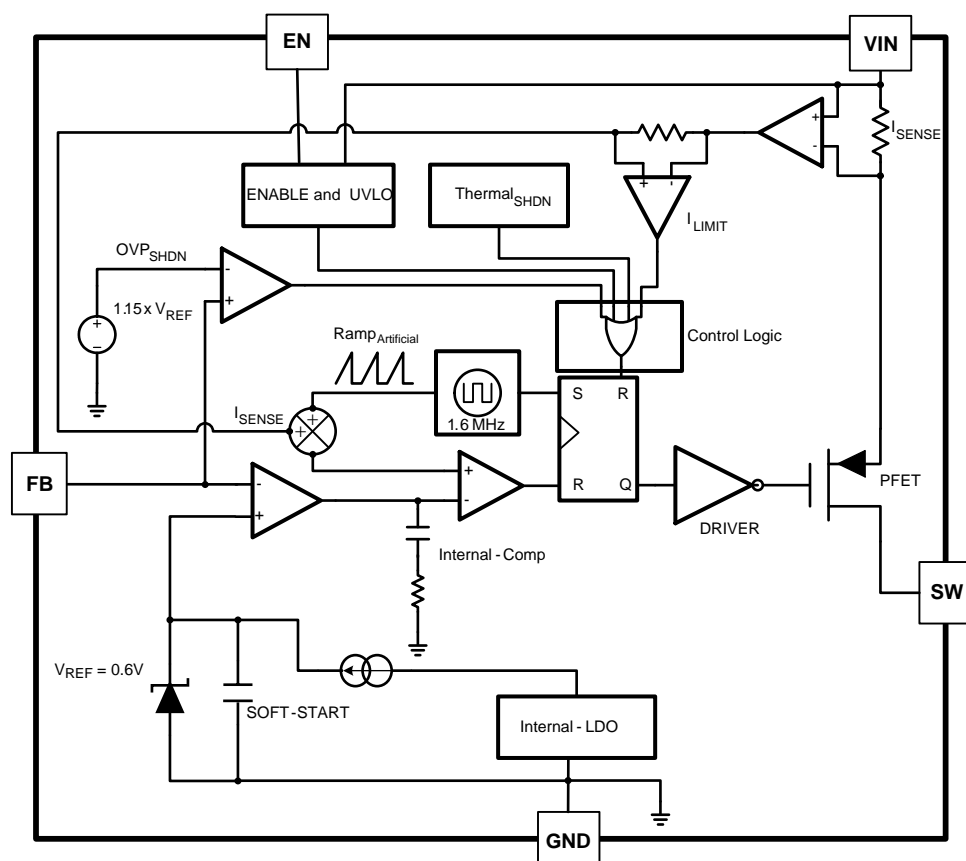
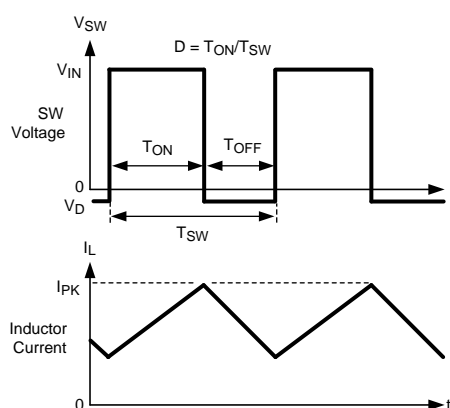

Figure 20.
Figure 21. Typical Waveforms
The following operating description of the LMR10515 will refer to the Simplified Block Diagram Figure 20 and to the waveforms in Figure 21. The LMR10515 supplies a regulated output voltage by switching the internal PMOS control switch at constant frequency and variable duty cycle. A switching cycle begins at the falling edge of the reset pulse generated by the internal oscillator. When this pulse goes low, the output control logic turns on the internal PMOS control switch. During this on-time, the SW pin voltage (V_{SW}) swings up to approximately V_{IN} , and the inductor current (I_L) increases with a linear slope. I_L is measured by the current sense amplifier, which generates an output proportional to the switch current. The sense signal is summed with the regulator's corrective ramp and compared to the error amplifier's output, which is proportional to the difference between the feedback voltage and V_{REF} . When the PWM comparator output goes high, the output switch turns off until the next switching cycle begins. During the switch off-time, inductor current discharges through the Schottky catch diode, which forces the SW pin to swing below ground by the forward voltage (V_D) of the Schottky catch diode. The regulator loop adjusts the duty cycle (D) to maintain a constant output voltage.